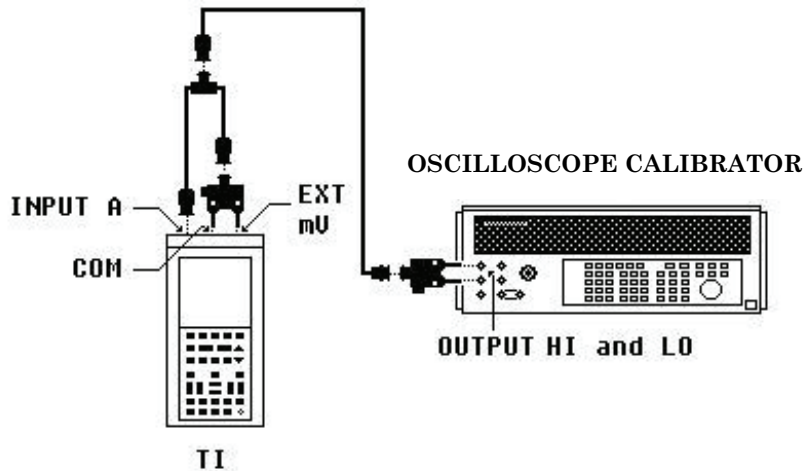

Figure 12. External trigger.
- (31) Set calibrator to standby.
- (32) Connect equipment as shown in figure 12 below: